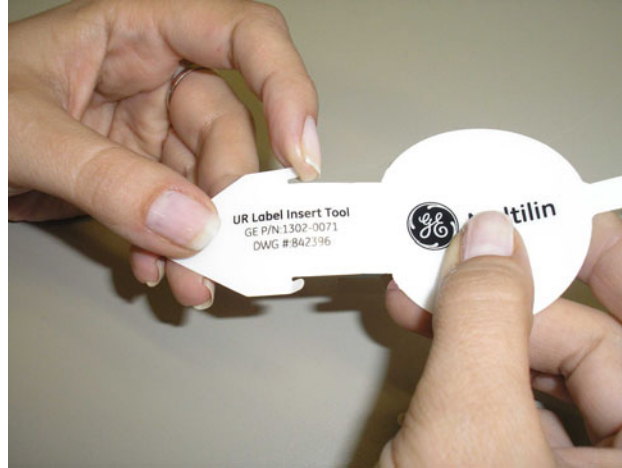

Figure 4-10: **LABEL TOOL** - BENDING THE UPPER TABS UPWARD
- Bend the two tabs towards centre of the tool upwards (towards you when looking from the printed side) - see figure 4-10 below.